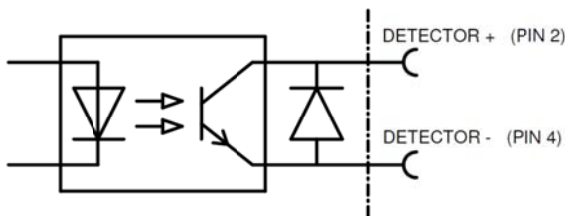

Figure 4, *Perfomaster* connections
- Connect the power cable as shown in figure 4